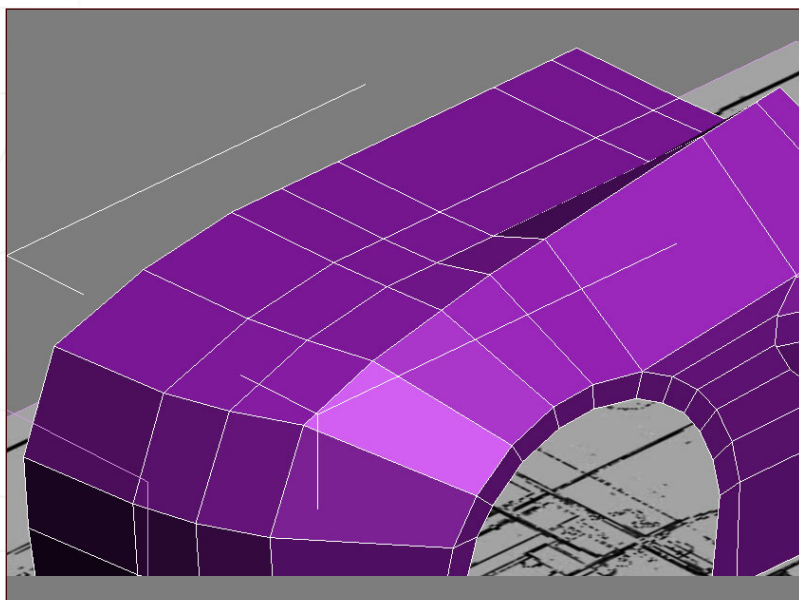

Fig 23
16. I copied the edges to get the main space, then made a cut along the edge I had in mind, and moved the vertices to get the correct form (Fig23, Fig24 and Fig25).